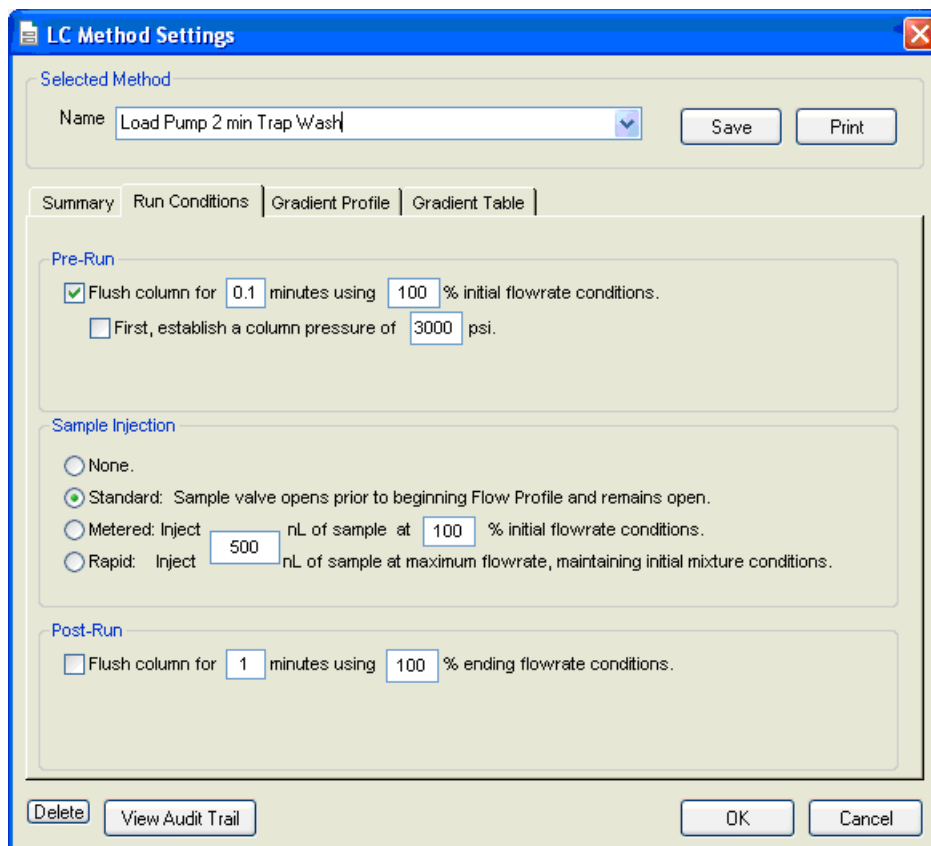

Figure 1-4 LC Method Settings dialog—Run Conditions tab
5. On the **Run Conditions** tab, specify conditions as shown in Figure 1-4.